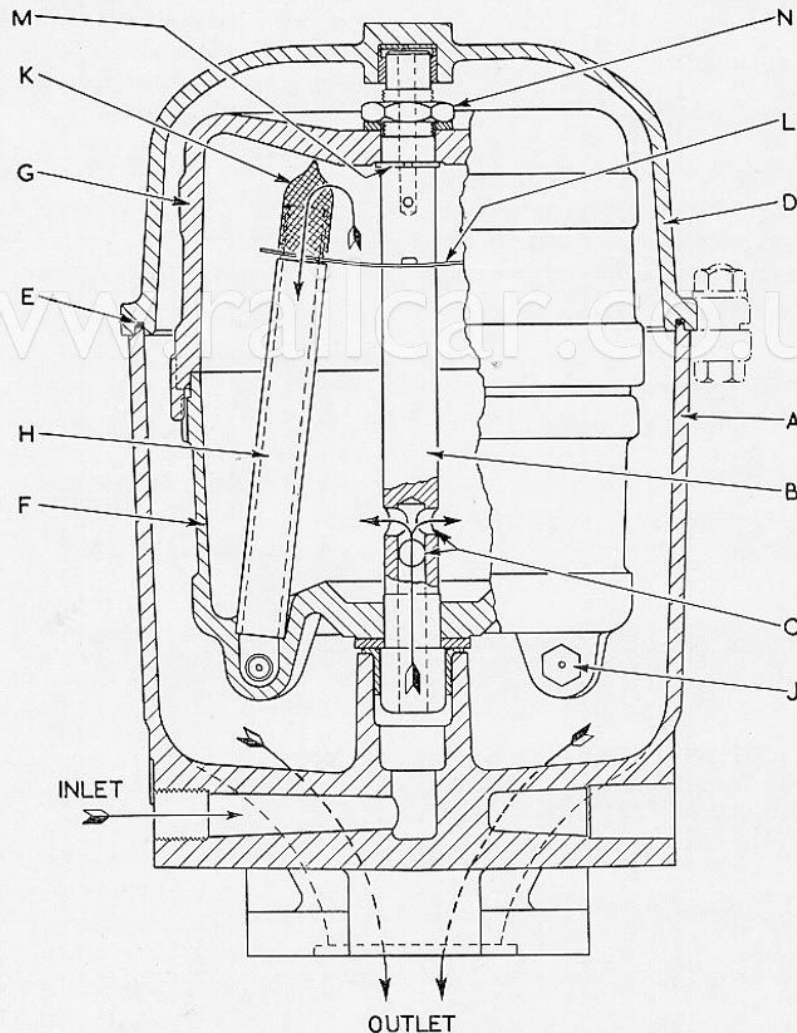

FIG. 9. CENTRIFUGAL OIL FILTER
Referring to Fig. 9, oil under pressure from the pump is tapped off the main oil gallery and piped to the inlet union in the bore of the filter casing (A), passing then up the hollow centre spindle (B) and out through ports (C) into the rotor bowl (F). When the bowl is full, the overflow escapes downwards through the stand pipes (H) and, due to the restriction of the nozzles (J), is expelled at high velocity into the filter casing. As